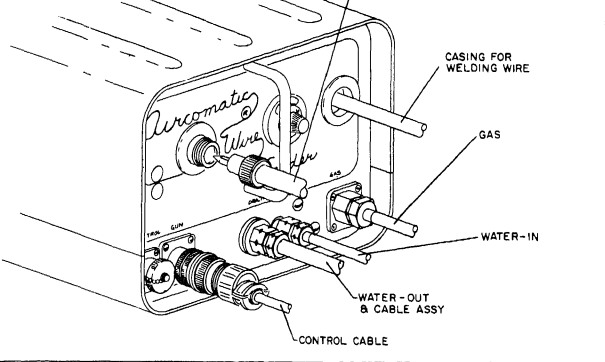

Figure 8. Connecting Gun
b. Make all other gun connections as shown in Figure 8.